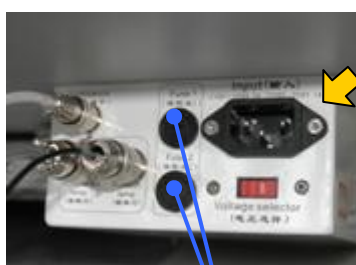

Fig.4.4.2
- 1) Switch off the main power and remove the power cable from socket. (Fig.4.4.2).
- 2) The fuse is inserted in the fuse box which has fuse mark. Please rotate the fuse part out (Fig.4.4.2) by pressing the fuse box with a screw or a coin. One fuse is in use, the other is in spare. Please check them, if the one in use is burnt, please replace it with the spare one and then place both the two fuse parts into original place.